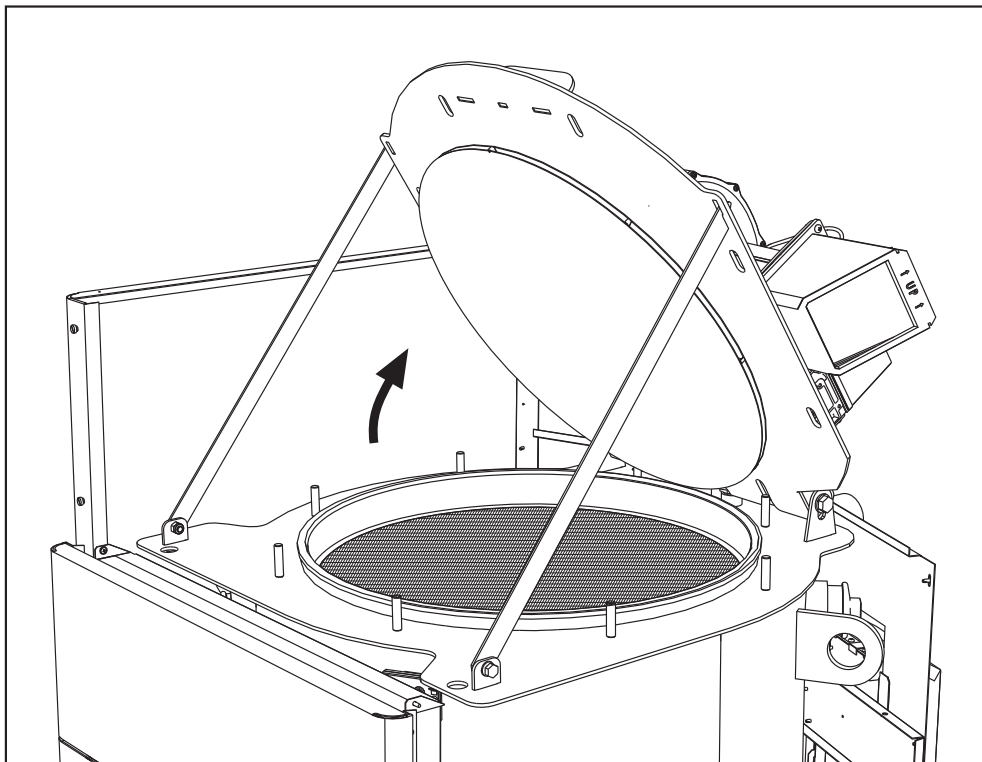

fig. 71
- Open the burner door and block it with the support brackets (fig. 71).